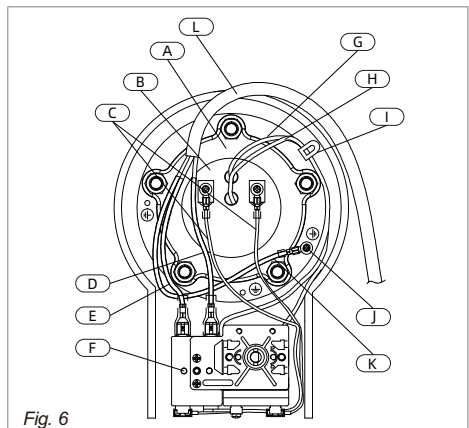

Fig. 6
- Take out the power cord L from the plastic part. (Fig. 6)
- Use a cross screwdriver to unscrew the 3-in-1 cross screw J on the heating element terminals of red wire I and blue wire C. (Fig. 6)
- Remove the wire nail I and press the thermostat capillary G and the thermal cut-out capillary H, and take it out of the blind tube opening. (Fig. 6)
- Loosen the 5 nuts and spring washer on the heating element pressing plate A with the sleeve, and take out the heating element pressing plate A. (Fig. 6)
- Remove heating element B. (Fig. 6)